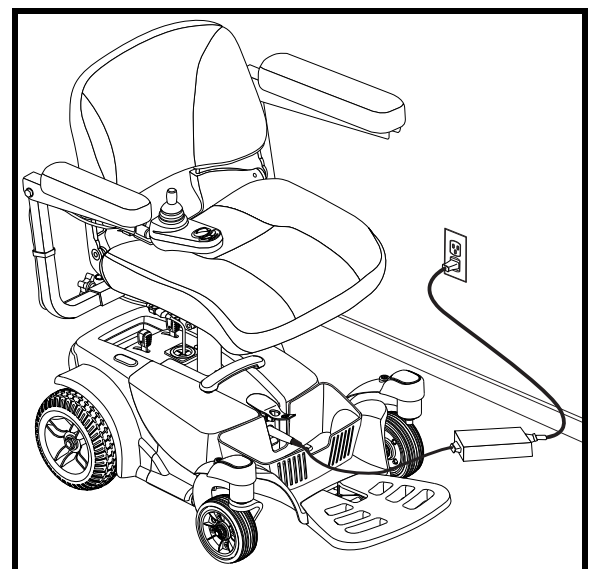

Figure 20. Battery Charging Through Controller
3. Plug the off-board charger into the XLR off-board charger port located on the controller. See figure 20.